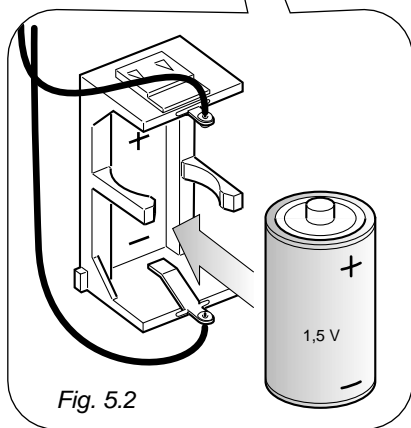

Fig. 5.2
- Check for correct polarity (fig. 5.2 and label to the side of the battery compartment).